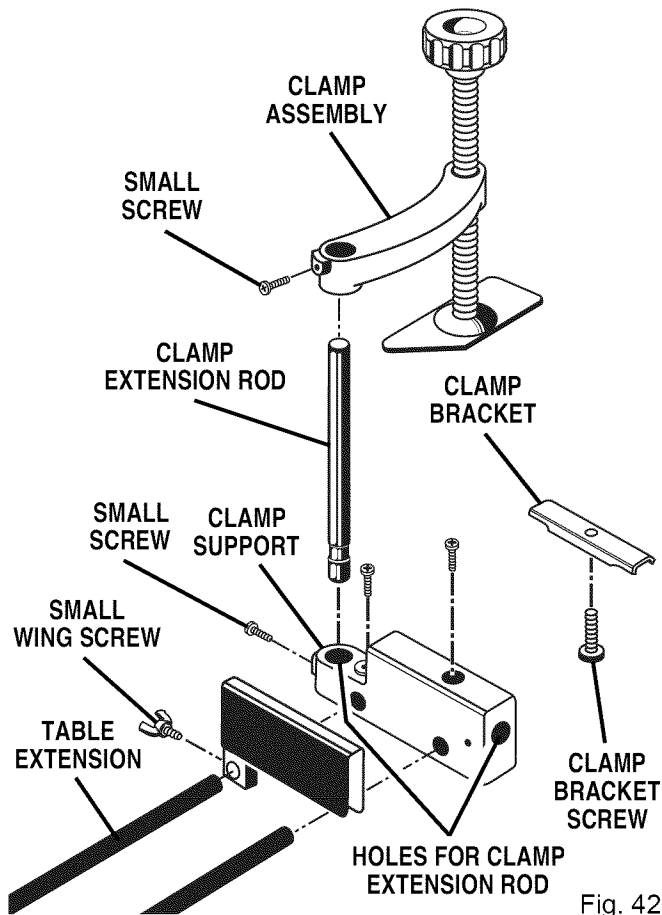

Fig. 42
See Figures 42 and 43.
- Insert the grooved end of the clamp extension rod into the back, top hole of the clamp support. This will allow the clamp to press the workpiece against the saw table. See Figures 42 and 45.